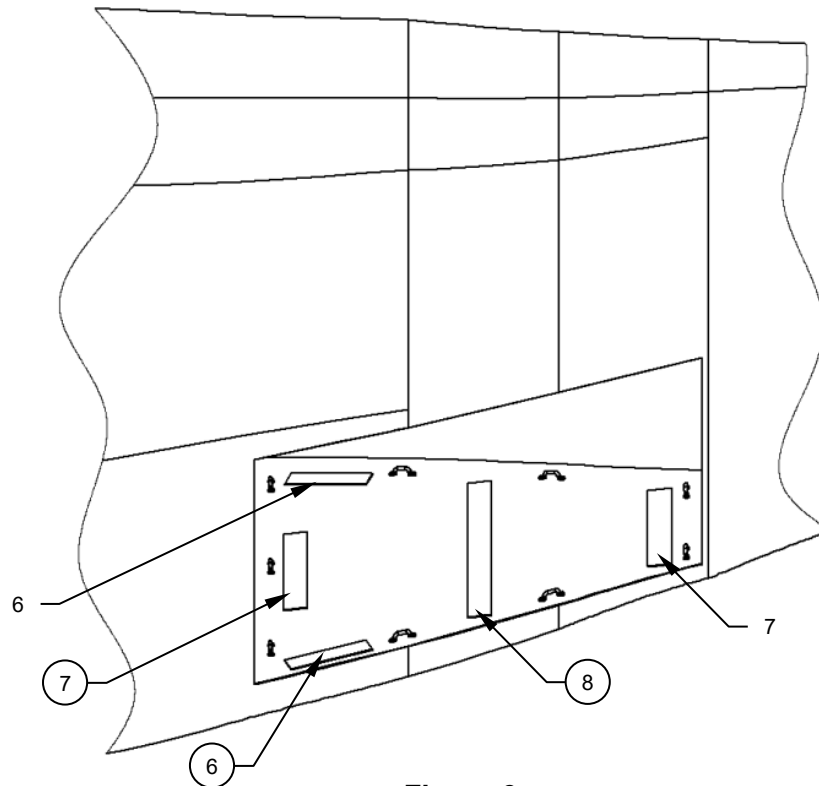

Figure 3
6. Using the felt pen marks as reference points, apply the Velcro, Details (Items 6, 7 & 8) to the honeycomb panel in their respective locations. Reference Figure 3. Apply adequate pressure to ensure a secure bond.